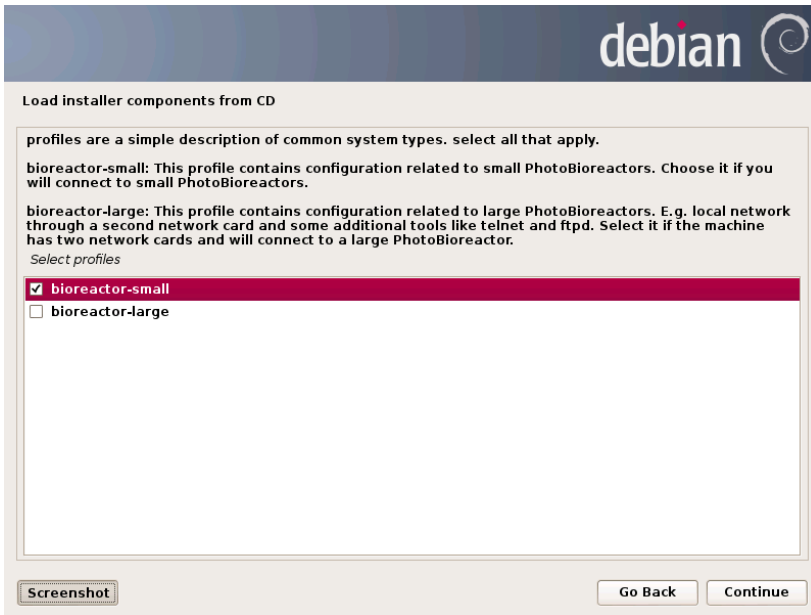

Fig. 60 Choose the bioreactor profile
- Verify that `bioreactor-small` profile is selected and `bioreactor-large` profile is deselected and continue (Fig. 60).